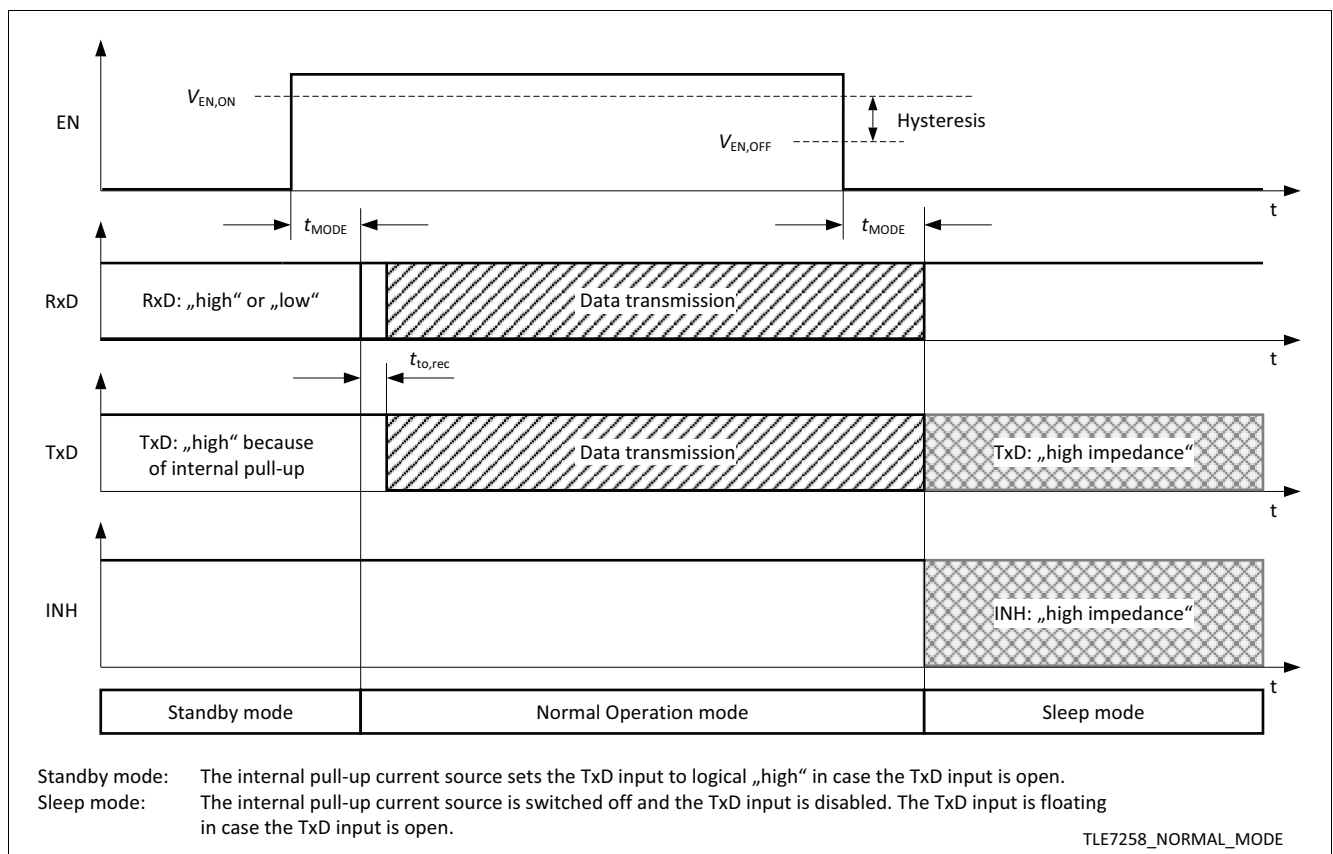
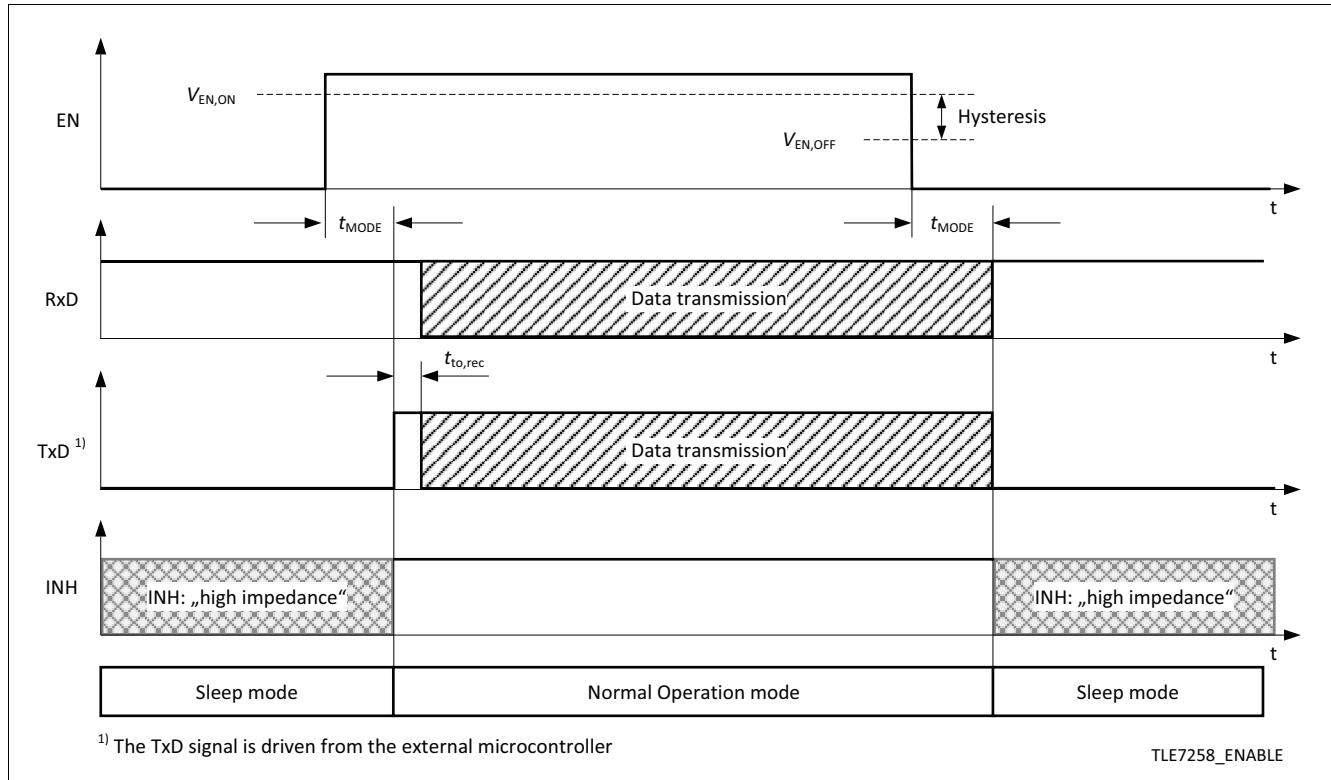

Figure 5 Entering normal operation mode from standby mode
Figure 9 Entering normal operation mode from sleep mode
Normal operation mode can be entered from either sleep mode (see Figure 9) or from standby mode (see Figure 5), by setting the EN input to logical "high". From normal operation mode the TLE7258 can only enter sleep mode, it is not possible to enter standby mode directly (see Figure 4).
After a mode change to normal operation the TLE7258 requires a logical “high” signal for the time $t_{to,rec}$ on the TxD input before releasing the data communication (see Figure 5). The transmitter remains deactivated as long as the signal on the TxD input remains logical “low”, preventing possible bus communication disturbance.
- The EN input is active. A “high” signal on the EN input triggers a transition to normal operation mode (see Figure 5).
The EN input is used for operation mode control of the TLE7258. By setting the EN input logical “high” for the time t_{MODE} while being sleep or standby mode, a transition to normal operation mode will be triggered (see Figure 9). The EN input has an integrated pull-down resistor to ensure the device remains in sleep or standby mode even if the EN pin is left open. The EN input has an integrated hysteresis.
A signal transition from logical “high” to “low” on the EN input changes the operation mode from normal operation mode to sleep mode (see Figure 5).